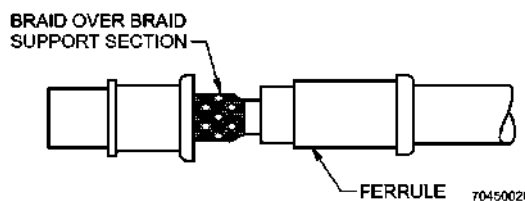

Figure 10-71 Crimped Centre Contact of Braided Coaxial Cable Inserted in Contact Body
- (3) Position ferrule over braid and against shoulder on contact.
- (4) Place the assembly in crimping die of tool with shoulder of contact against die. (See Figure 10-71)
- (5) Close tool handles until ratchet releases to form braid crimp.